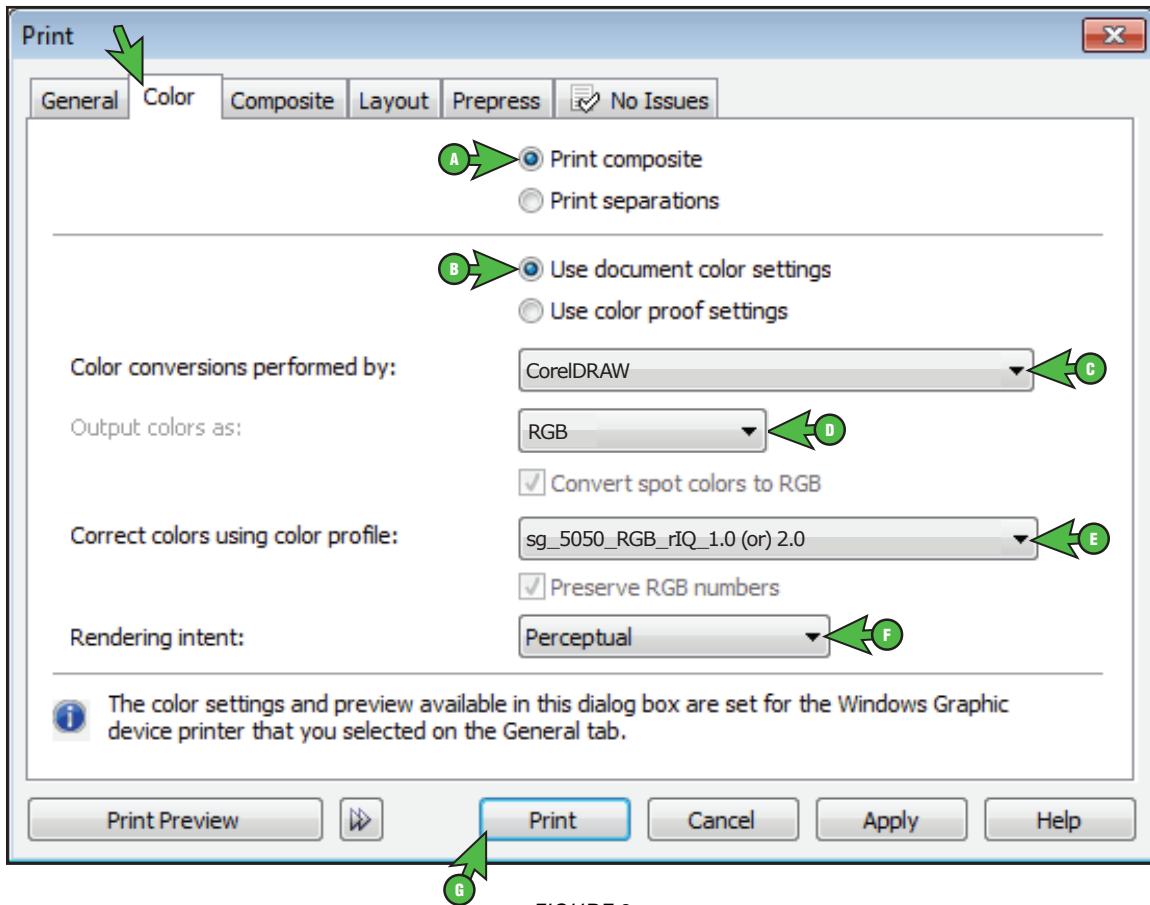

FIGURE 8
8.) In the Print window, click the Color tab and match your settings to the ones shown below: (see FIGURE 8)